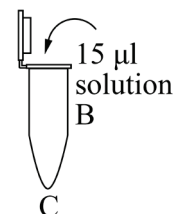

Fig. 9
7. Using the P20 micropipette, transfer 15 μl solution of tube B to tube C. Hence, the solution in tube C is a 100-fold dilution of the solution in tube B (Fig. 9).